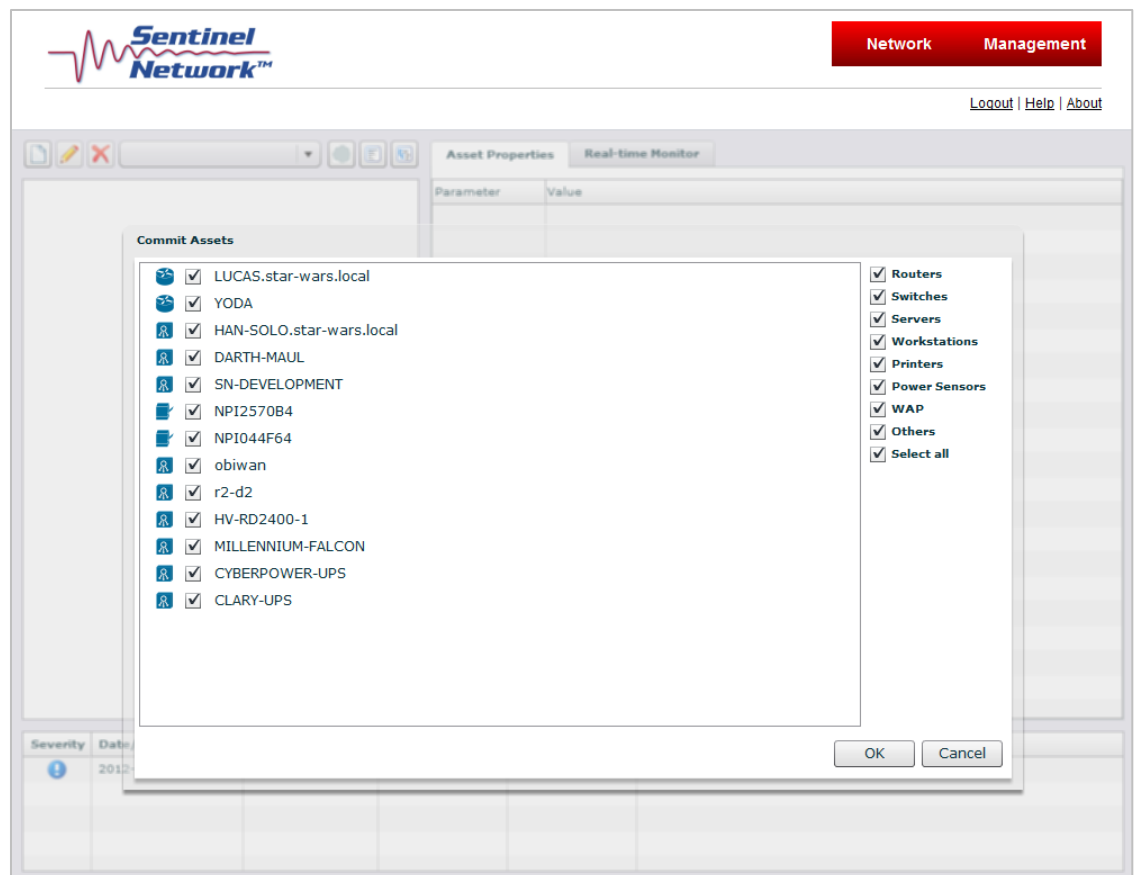

Figure 5: Commit Assets window
The **Discovery in Process** dialog box provides feedback about the process. Eventually, the **Commit Assets** window appears in front of the Sentinel Network window, as shown in Figure 5.
4. At this point you can select which of the discovered assets you want to **commit** for monitoring by Sentinel Network. The check boxes on the right side of this dialog box (Figure 5), all of which are selected by default, enable you to keep or eliminate routers, switches, servers, workstations, printers, power sensors, WAP, or Others. The icons on the far left indicate the device type, although Discovery will typically not associate the correct icons with the devices during the first instance of discovery. Step 8 in this section provides the solution.